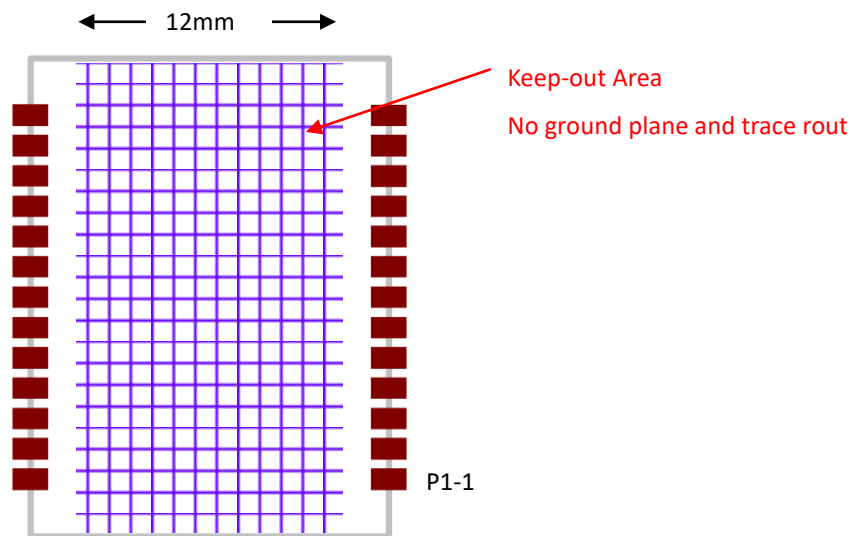

Figure 6-2. Recommend Layout of Radar module
2. Please keep the module solder layer that no ground plane and trace rout in the keep-out area. Show in Figure 6-2.